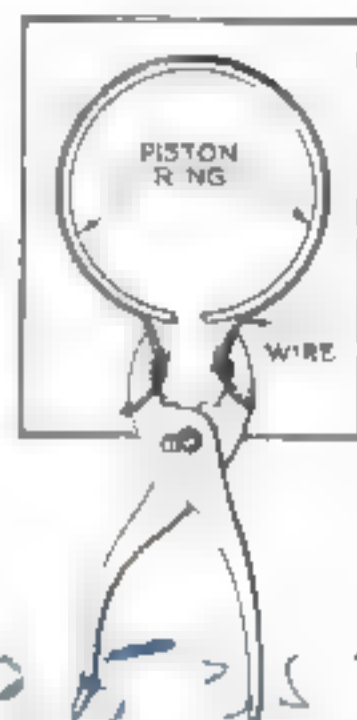

Fig. 4. Novel piston ring compressor made from pliers.
W. Conway, of Syoset, N. Y., wins this month's \$10 prize for his suggestion of a piston ring compressor, shown in Fig. 4. Each month *POPULAR SCIENCE MONTHLY* awards \$10, in addition to regular space rates, for the best idea sent in for motorists. Other contributions used are paid for at the usual rates.
FIGURE 4 shows an effective piston ring compressor made of a pair of adjustable pliers and a piece of strong iron wire. Success depends on how carefully you fit the ends of the wire to the jaws of the pliers. By fitting the wire so that the ring stands at right angles, it is possible to use this compressor in close quarters.